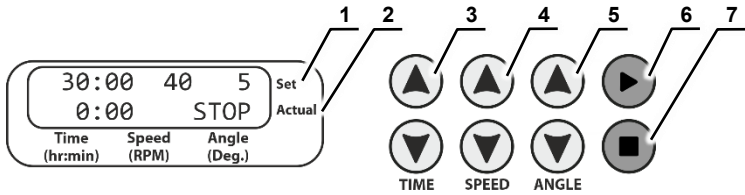

Figure 2. MR-12, control panel
- 6.3. Display shows previously set time, speed and angle in the upper **Set** line (fig. 2/1), and elapsed time and mode indication in the lower **Actual** line (fig. 2/2).
- 6.4. **Setting time.** Using ▲ and ▼ **TIME** keys (fig. 2/3), set the necessary time interval in hours and minutes (step 1 minute).
- 6.5. **Setting speed.** Using ▲ and ▼ **SPEED** keys (fig. 2/4), set the necessary mixing speed in rockings per minute (step 1 RPM).
- 6.6. **Setting angle.** Using ▲ and ▼ **ANGLE** keys (fig. 2/5), set the necessary angle in degrees (step 1°).
- 6.7. Press the ► key (fig. 2/6). Platform begins movement and timer starts counting elapsed time. Speed and angle can be changed during operation (but not time).
- 6.8. If the time interval is set to 0:00, then pressing the ► key puts the unit in continuous operation mode, until the ■ key (fig. 2/7) is pressed.
- 6.13. If the platform is overloaded, the device will make three attempts to restart the operation (display indication: DRIVER ERROR). If attempts fail, flashing OVERLOAD indication shows on the display, accompanied by a repeating sound signal, until the ■ key (fig. 2/7) is pressed. Eliminate causes of overload before restarting operation.